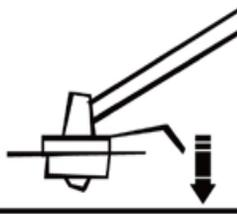

FIG. 18
1. The trimmer head (37) is used to cut smaller types of weed, lawn grass, or similar soft vegetation.
2. The trimmer head is equipped with a bumper (38) helping to cut the trimming line (39) while operating. Simply tap the bumper on a firm surface and the spool will release fresh trimming line (Fig. 18).
3. A knife (20) is integrated with the safety guard (19) and this will cut the line to the necessary length.